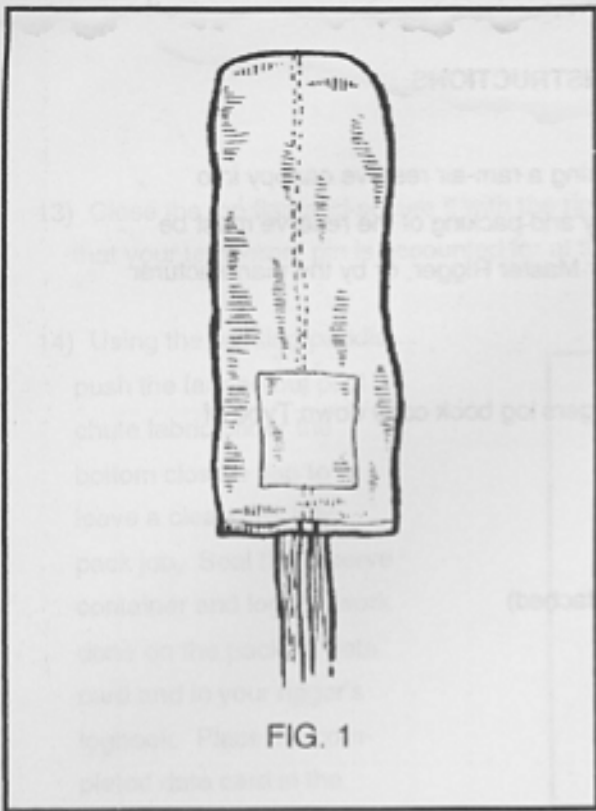
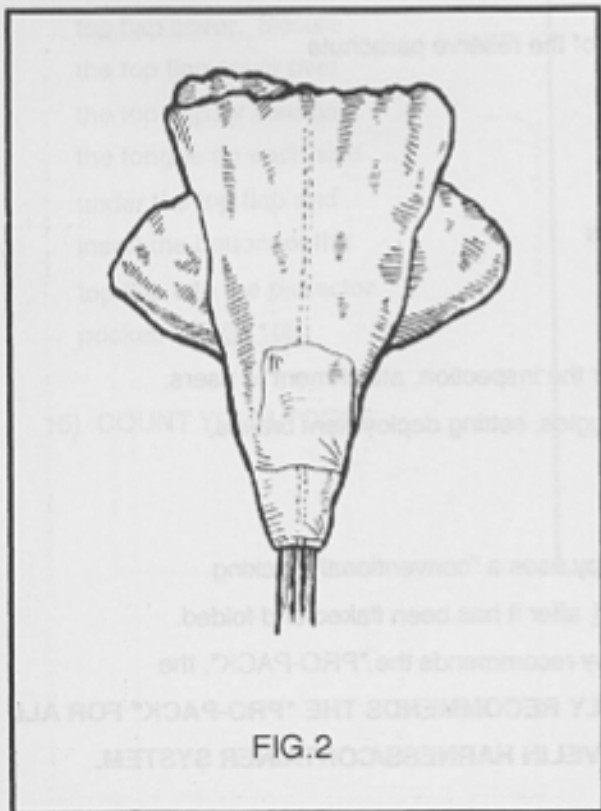

FIG. 1
FIG. 2
- 3) If the manufacturer of the ram-air reserve canopy uses a "conventional" packing method, the canopy should look similar to FIG. 1 after it has been flaked and folded. If the manufacturer of the ram-air reserve canopy recommends the "PRO-PACK", the canopy will resemble FIG. 2. **SUN PATH HIGHLY RECOMMENDS THE "PRO-PACK" FOR ALL RAM-AIR RESERVES PACKED INTO THE JAVELIN HARNESS/CONTAINER SYSTEM.**